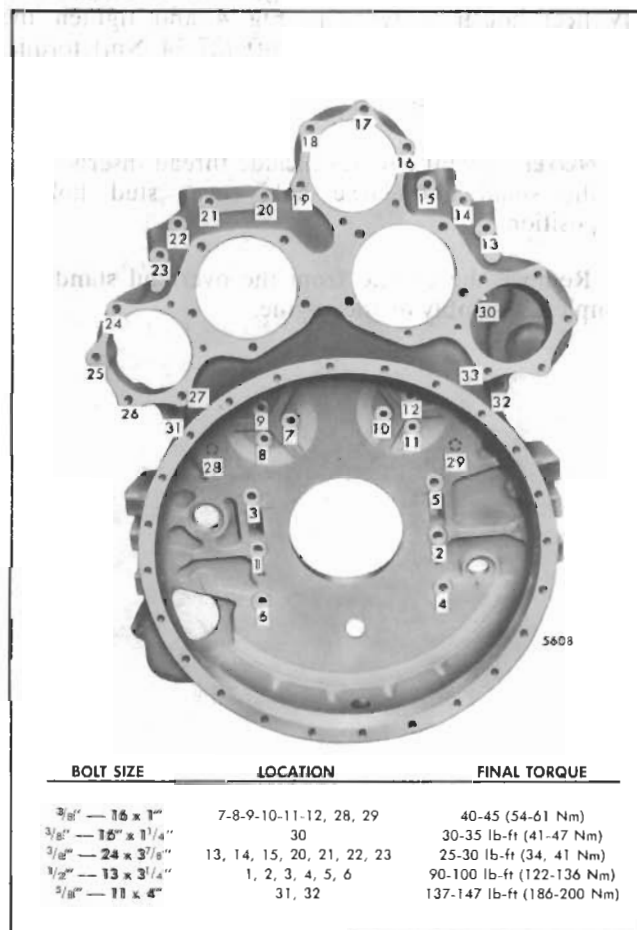

Fig. 5 - Flywheel Housing Bolt Tightening Sequence (Operation 2)
NOTE: Install three flywheel housing bolts with a nylon patch and flat washers at the right bank camshaft gear area (positions 13, 14 and 15 in Fig. 5).
8. Refer to Fig. 5 for the final bolt tightening sequence and, starting at number 1, tighten the flywheel housing bolts to the specified torque. Tighten the 3/8"-24 bolts to 25-30 lb-ft (34-41 Nm) torque, the 3/8"-16 self-locking idler gear hub and idler gear hole spacer bolts to 40-45 lb-ft (54-61 Nm) torque, the remaining 3/8"-16 bolts (number 30 with nylon patch) to 30-35 lb-ft (41-47 Nm) torque and the 1/2"-13 bolts to 90-100 lb-ft (122-136 Nm) torque. Tighten the two 5/8-11" outboard flywheel housing bolts on the left and right side to 137-147 lb-ft (186-200 Nm) torque. Be sure to rotate the crankshaft when tightening the idler gear hub bolts.